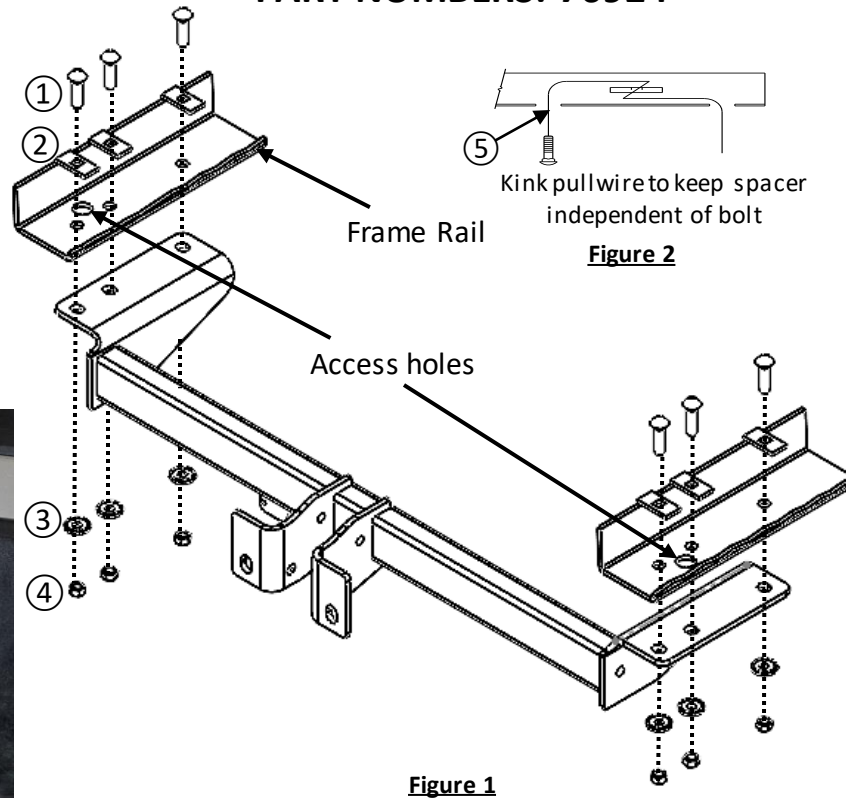

Figure 1
- Hitch installation** – Feed the carriage bolts ① and spacers ② to attachment holes through access holes using the pull wires ⑤, see **Figures 1 & 2**. Use a die grinder to enlarge the feeding hole if necessary. Leave pull wires attached. Raise the hitch into position and feed carriage bolts through bracket holes, see **Figure 1**. Remove the pull wires and loosely install conical washers ③ and hex nuts ④ to the hitch.